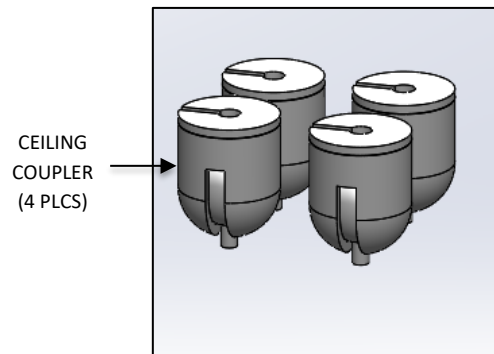

FIG. 5 - RED BAG CONTENTS
- a. FOUR (4) CEILING COUPLER (CC) (as shown in FIG. 5)